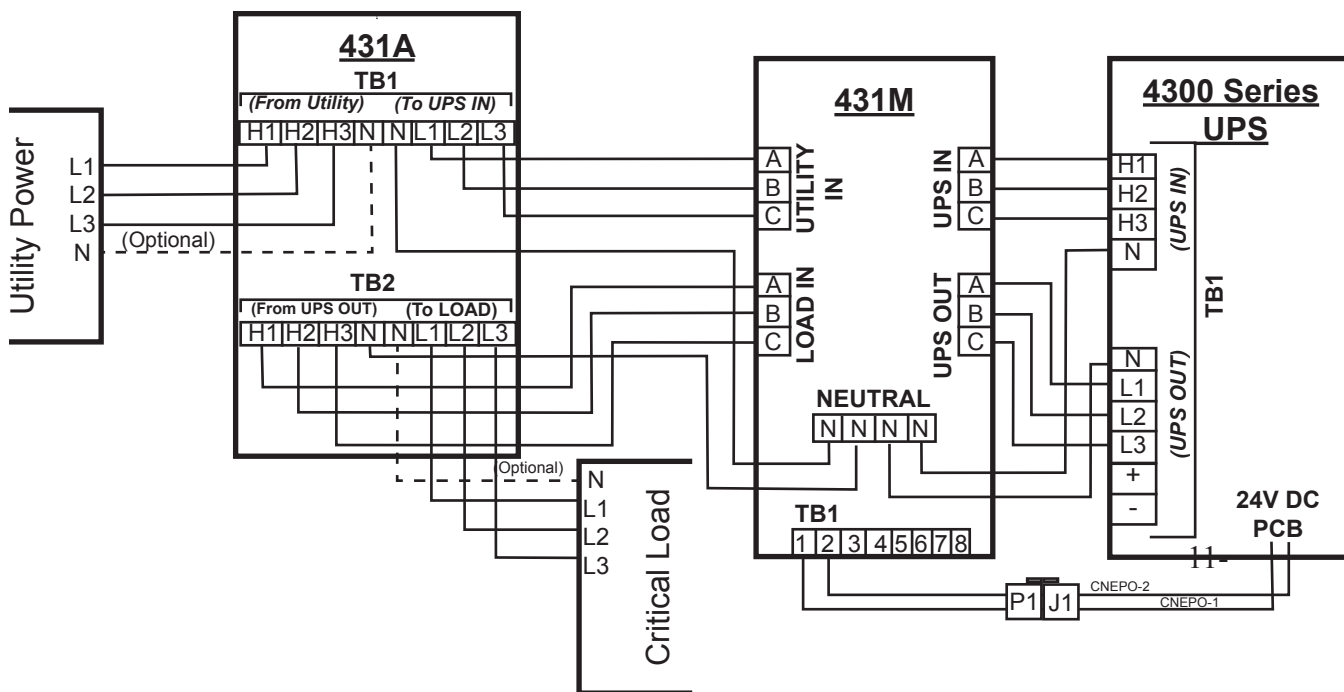

Figure 12-7 - Power Cabling Between Auxiliary Cabinet, MBS, and UPS
9. Run power cables from 431M bus stub terminals UTILITY IN to 431A TB1 - UPS IN terminals. (Fig. 12-7)
10. Run power cables from 431M bus stub terminals LOAD IN to 431A TB2 - UPS OUT terminals. (Fig. 12-7)
12. Connect 431M UPS IN Bus Terminals (Figure 12-2 #9B) to UPS TB1 - UPS IN, per Figure 12-7.
13. Connect 431M UPS OUT Bus Terminals (Figure 12-2 #9C) to UPS TB1 - UPS OUT, per Figure 12-7.
14. Connect the Neutral cables to the 431M Neutral Bus stub, Figure 12-2 #16 and Figure 12-7.